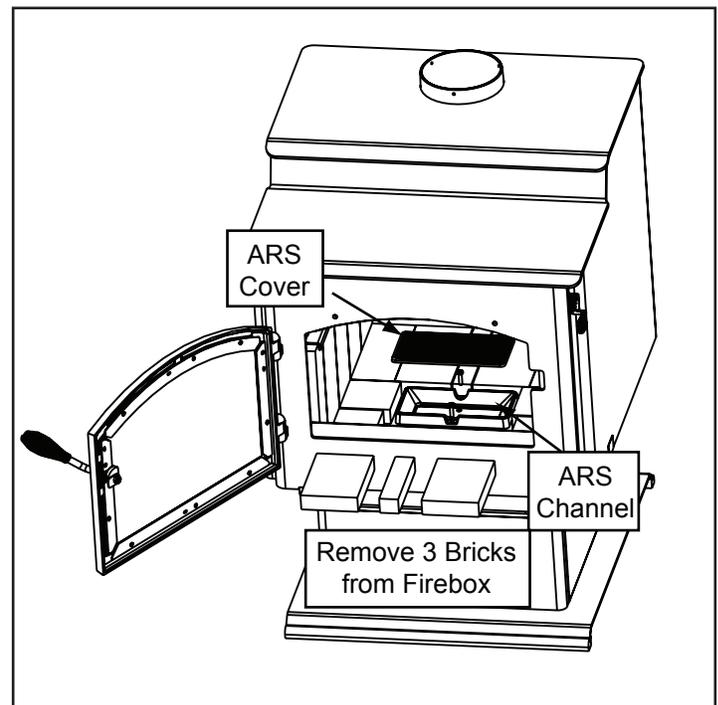

Figure 42.2
1. Re-install the ash grate channel and secure with 2 bolts previously removed. Set the ARS access cover and the 3 front cut bricks in place. **Figure 42.2.**
1. Follow steps 1 through 3 on **page 42**. See also **Figure 42.2**.